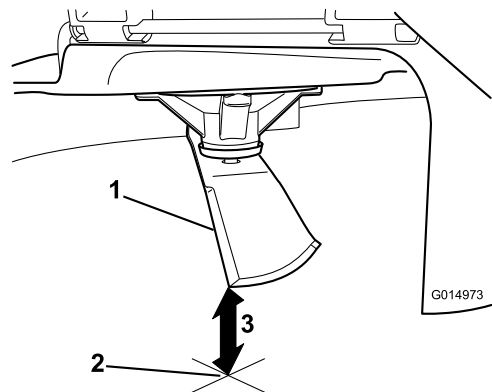

**Figure 85**
3. Measured distance between blade and the surface (A)
4. Rotate the same blade 180 degrees so that the opposing cutting edge is now in the same position (Figure 85).